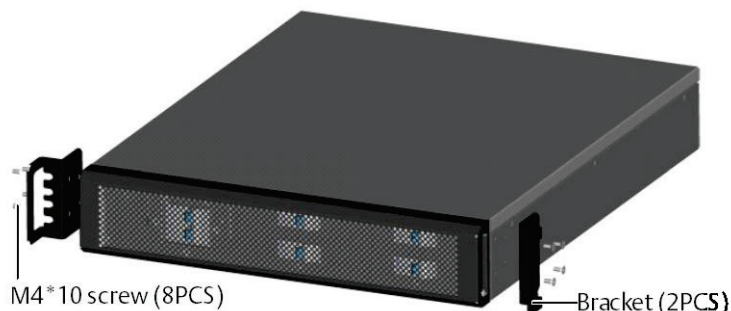

Figure 2-1 Installing brackets
1. Use eight M4 × 10 screws to fix two brackets (accessories) respectively on both sides of the POD front panel, as shown in Figure 2-1.